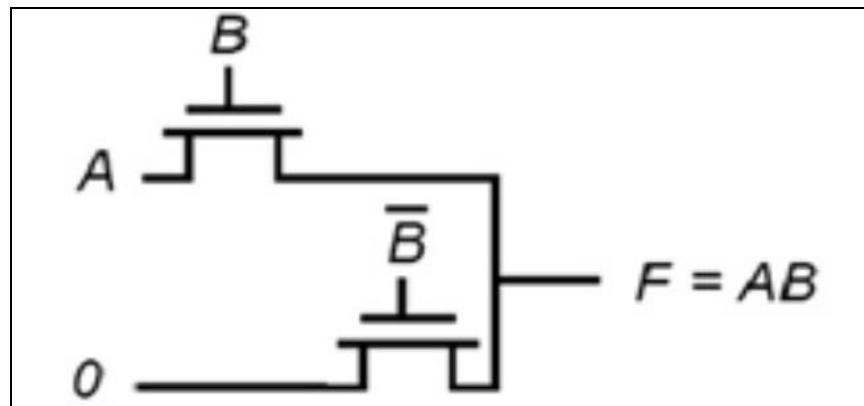

Figure 5: AND gate using pass transistor logic
1. For the implementation of AND operation using pass transistor logic (PTL) connect the circuit as shown in Figure 5. One inverter is required to generate the complement of B. Note down the observed values in Table 1.